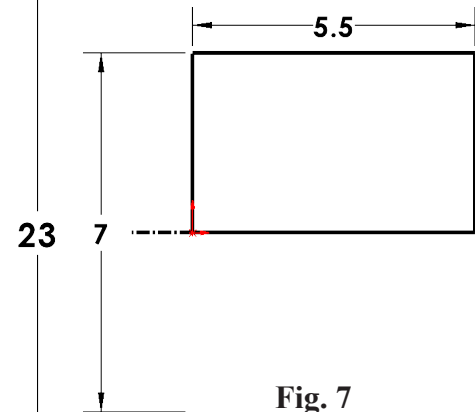

Fig. 7
Step 14. Add dimensions, **Fig. 7**. To dimension angle to imaginary line, click angled line and top endpoint, then click the **bottom vertical crosshair**  and place dimension.